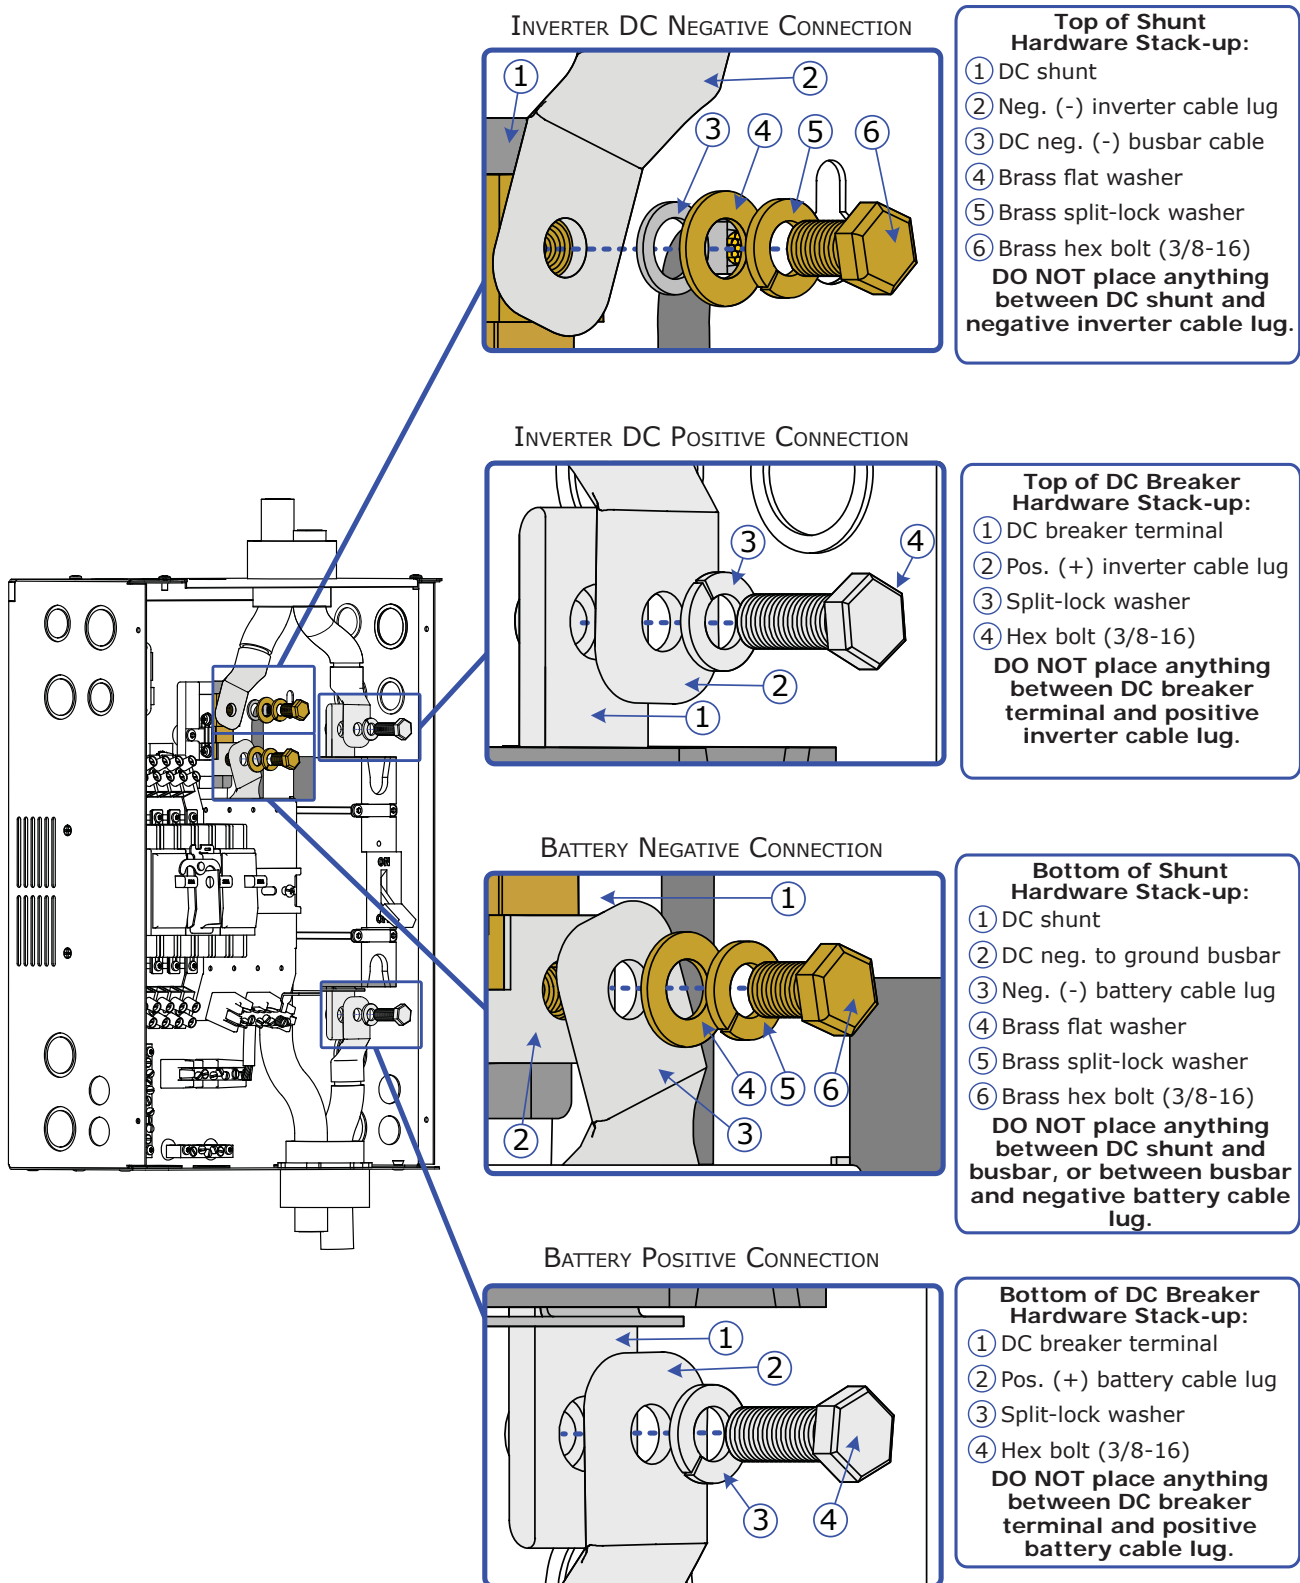

Figure 3-11, DC Connections - without Magnum Inverter Installed
The DC wiring for the MMP enclosure is further detailed in Figure 3-10 for systems using a Magnum Energy inverter, and in Figure 3-11 for systems not using a Magnum inverter. These detailed diagrams should be reviewed to assist in wiring the DC circuits, however, they are not intended to override or restrict any national or local electrical codes. These drawings should not be the determining factor as to whether the installation is compliant, that is the responsibility of the electrician and the onsite inspector.
3. Ensure the DC wire connections (on the batteries, inverter, DC circuit breaker, and DC shunt) are flush on the surface of the DC terminals and the hardware used to hold these connections are stacked correctly (see Figures 3-11 and 3-12); and then securely tighten these DC connections. Only after the entire installation is complete and all connections are verified should the DC circuit breaker be closed to provide power to the inverter.